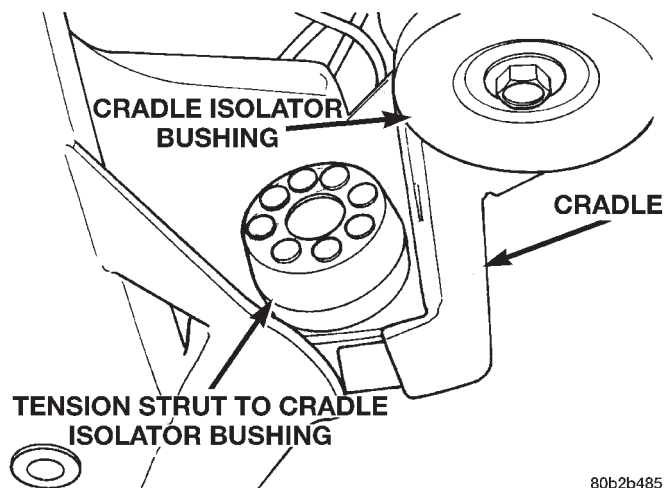

**Fig. 45 Tension Strut Bushing Installed In Cradle**
(3) Remove the tension strut to cradle isolator bushing from the cradle assembly. Install replacement tension strut to cradle isolator bushing into cradle, until squarely seated against cradle assembly (Fig. 45).